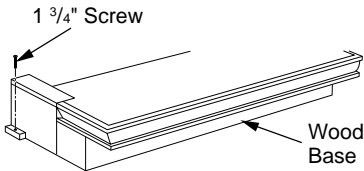

Figure 13 - Attaching Wood Base to Floor
10. Attach wood base to floor with two 1 ³/₄" black screws provided (see Figure 13). If the floor is concrete use anchor method (see *Attaching Wood Base to Solid Floor*, page 16).
15. Adjust assembly to remove any gaps. Attach remaining two 3" wood screws from hardware pack through openings inside of fireplace sides into the mantel. The openings are located at top behind the area for the black louvers (see Figure 13).